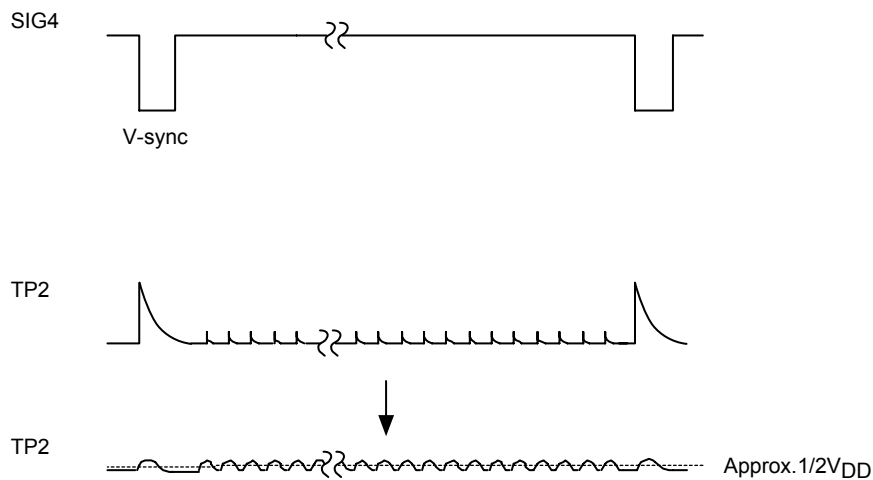

Fig.1-2 Horizontal AFC adjustment
Enter SIG4 ($V_L = 0mV$) to (A) and adjust VCOADJ so that the width of WL and WH becomes equal in the TP2 output waveform.(See fig 1-2.)